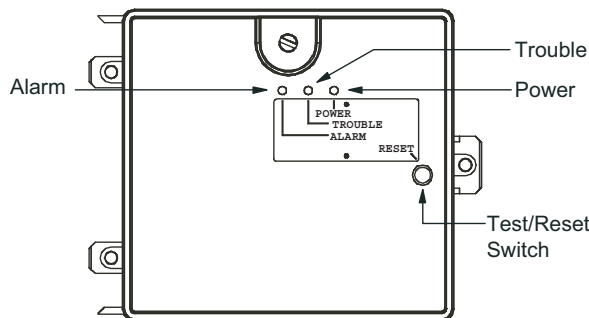

Fig. 52 — Controller Assembly
- The contacts on the controller's supervisory relay switch positions. (See Fig. 52.)